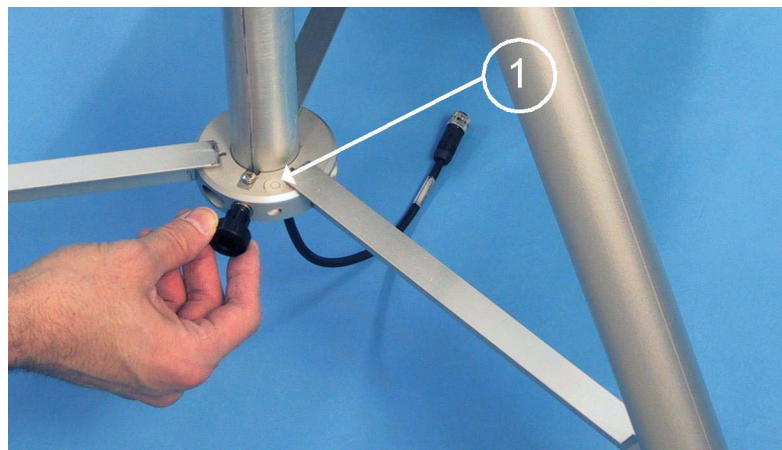

Figure 88 **Leveling the Station**
3. Check with the bubble level (number 1 in Figure 88 on page 99) that the station is leveled. The air bubble must be inside the circle. Adjust the legs to level the station.